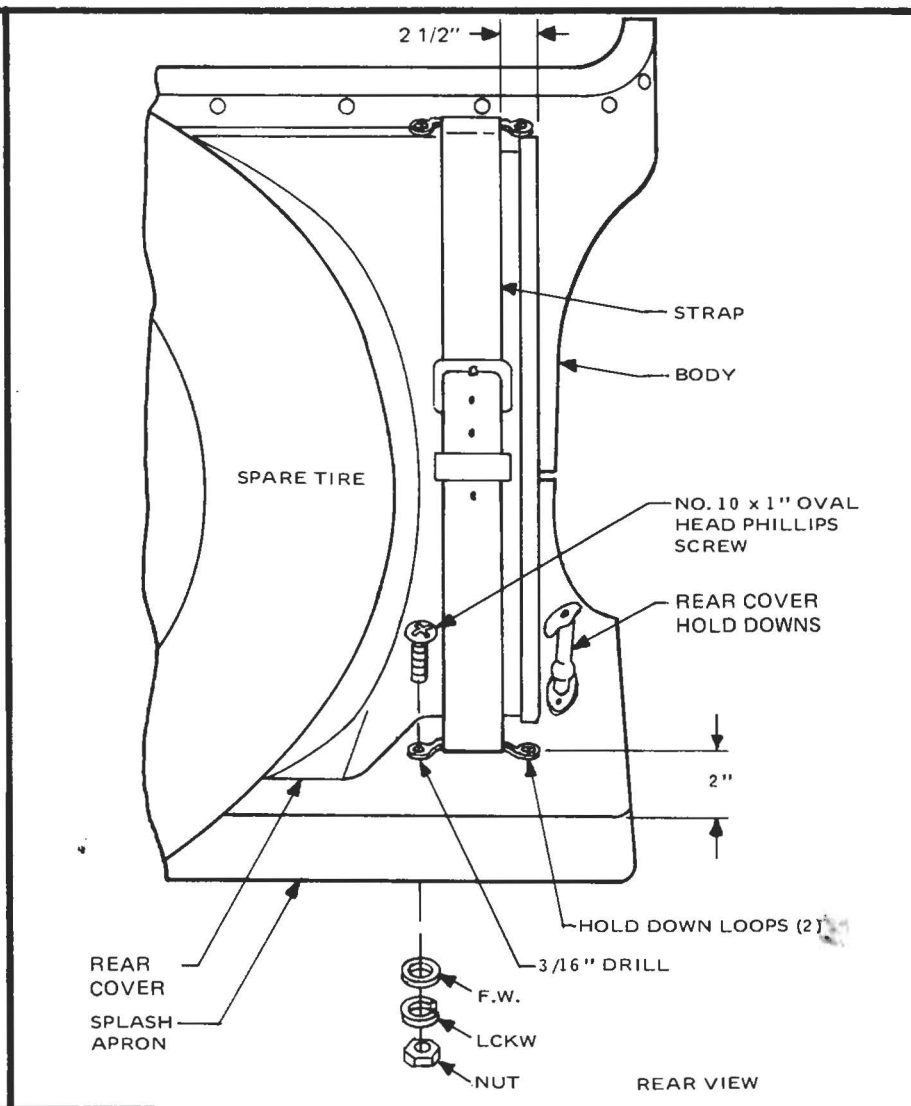

Figure 38
- ☐ The straps are installed $2 \frac{1}{2}$ " from the edge of the rear cover. (Figure 38) With strap attached, install two of the hold down loops provided into the splash apron, approximately 2" from the